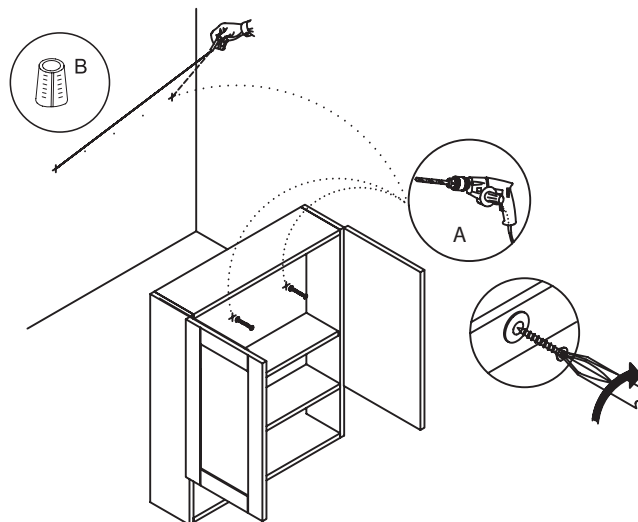

Figure 1
**2:** Determine the desired location of the cabinet. **NOTE:** It is recommended that the cabinet be installed to at least 1 wall stud. In order to locate wall studs, you can use a stud finder or tap along the wall until you find a spot that sounds solid. If you are unable to locate a wall stud, it is recommended that you use wall anchors (B - not included) to secure your cabinet. Figure 1.
**3:** Secure the cabinet to the wall by inserting (x 4) 2" screws with (x 4) washers through the backrails of the cabinet and into the wall. Figure 1.